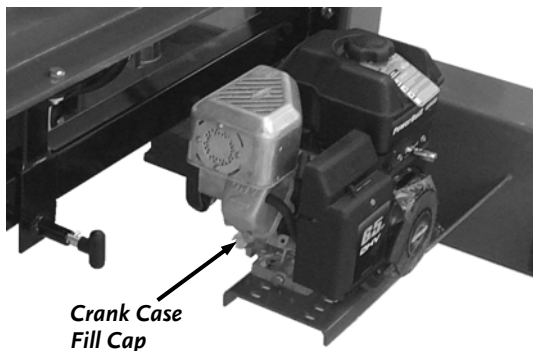

Figure 23
2. Remove the crank case fill cap (**Figure 23**) and fill the engine’s crank case with the engine manufacturers recommended oil in the engine operators manual.